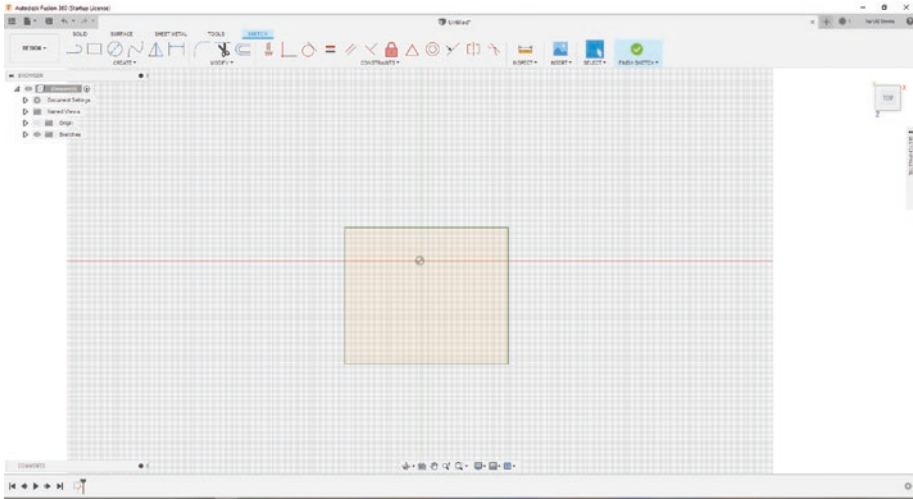

Figure 3-38. SVG is ready to be extruded
7. You should now see your SVG file on the plane you chose earlier. See Figure 3-38.